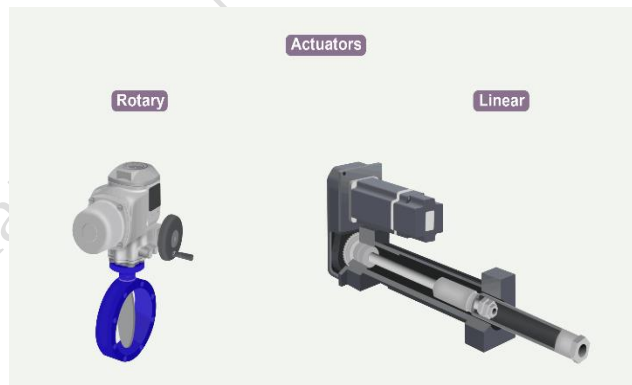

Fig. 1.11: Actuators
- 3. Actuators:** Actuators (shown in Fig. 1.11) are devices that respond to signal from the microcontroller/processor and take physical actions based on the data received from the sensors. In a sensor-based plumbing system, actuators might include solenoid valves, motorized valves or pumps. These actuators control the flow of water, pressure or other parameters to achieve the desired system behaviour.